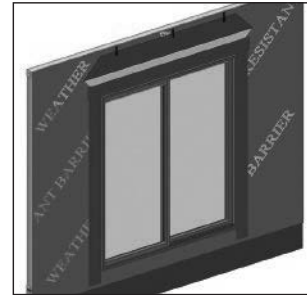

FIG. 25
- Cut and apply side flashing. Side flashing should run from the bottom of the sill flashing to 8" above the rough opening. (Fig. 25)